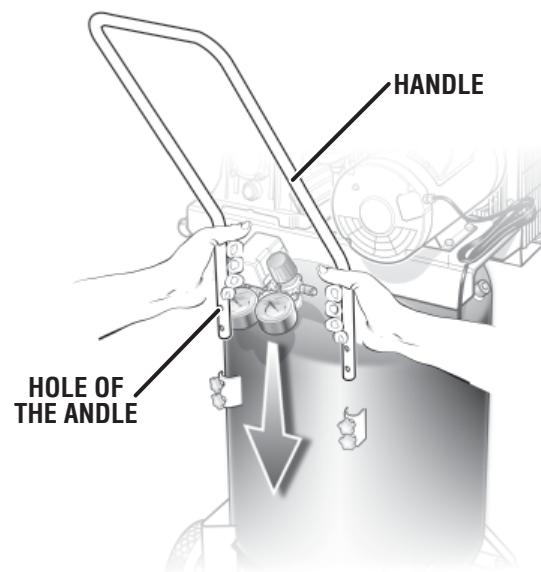

Fig. 4
See Figures 4 - 5.
- Lower the handle onto the compressor body, as shown in Figure 4.